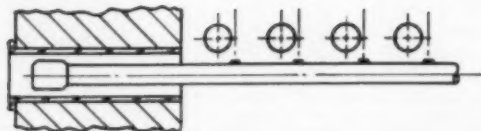

Fig. 2. Incorrect. Due to axial shifting of soot blower element, jets are too close to tubes.
- (a) Has the element shifted axially, in the bearing or supports? This may be caused by loss of outside operating head supports, by the boiler walls bulging or buckling, or by loose wall sleeves. (See Fig. 2.) Some slight adjustment of outside operating head supports is usually provided. If this be lacking or insufficient, it may be necessary to cut and rethread the element to shorten it, then add a nipple long enough to extend the element into proper nozzle alignment.